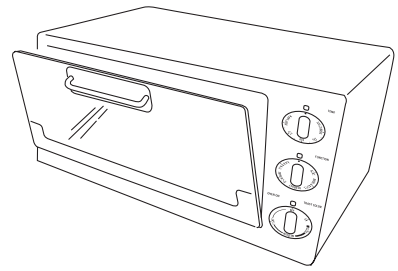

fig. 1
- Place the food to be grilled on the broil rack (P) inserted on the bake pan (H), and place them together in the guide 1.
- Close the door until you hear a "click" (see figure 1).
- Turn the function selector knob (D) to the BROIL or BROIL & ROTIS position.
- Turn the Timer knob (B) to the "ON" position.
- When cooking is completed, turn the Timer knob (B) manually to the "OFF" position.
- Turn the thermostat knob (A) to position TOAST/BROIL.
- Turn the function knob (D) to position BROIL & ROTIS.
- Turn the timer knob (B) to the "ON" position.